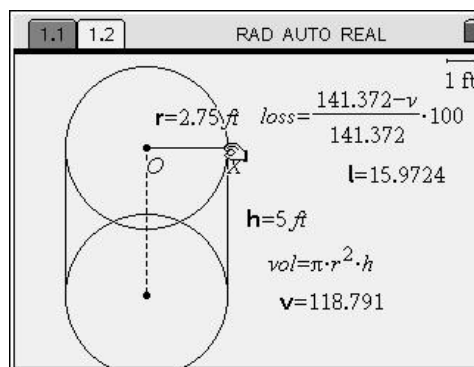

Figure 25
25. Store the percent lost as a variable. Move the arrow to the percent lost calculation. When the hand appears, press ENTER . The number should appear shaded. Next press CTRL VAR . Type L to overwrite *var*, and press ENTER . Move the cursor to the radius point X until it becomes an open hand. Center click C and hold until the hand closes. (Figure 25) Vary the radius, and observe the percent lost. Answer questions 8 – 11 on the answer sheet.